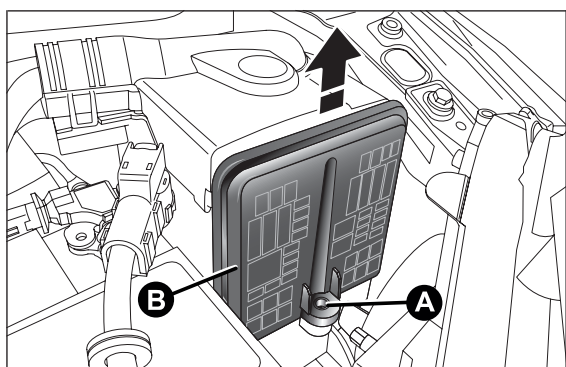
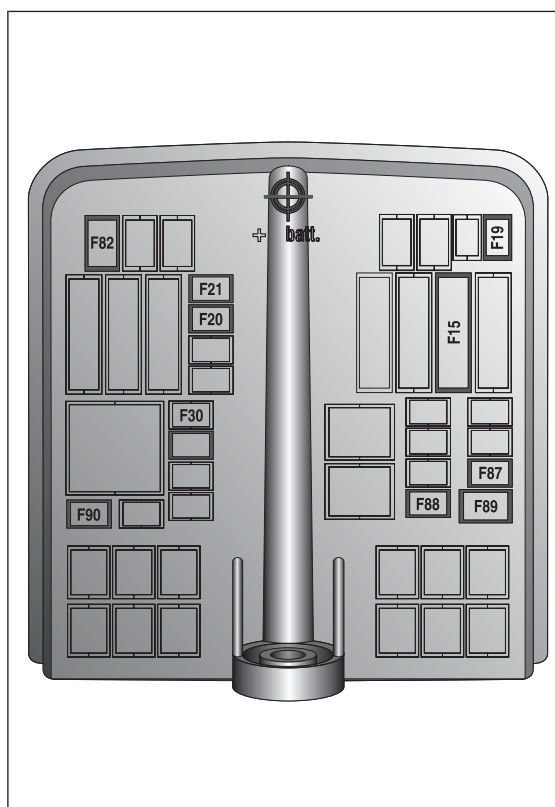

fig. 133
fig. 134
- undo the screw A fig. 133, remove the cover B fig. 133 pulling upwards. The number identifying the electrical component corresponding to each fuse is on the cover fig. 134. After replacing the fuse, make sure you close cover B on the fusebox.